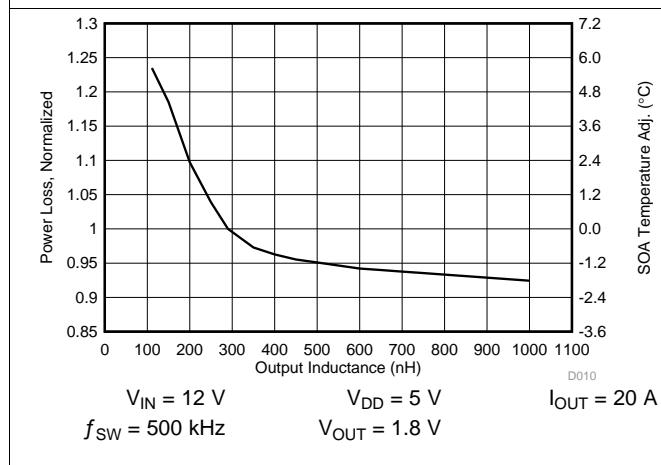

Figure 12. Normalized Power Loss vs Output Inductance
- Normalized Power Loss for output inductor  $\approx 1.10$  (Figure 12)
- SOA adjustment for output inductor  $\approx 2.3^{\circ}\text{C}$  (Figure 12)